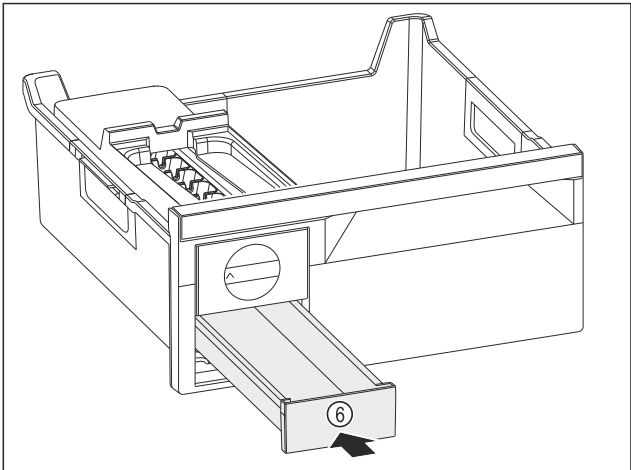

Fig. 125
- ▶ Insert the ice cube drawer Fig. 125 (6).